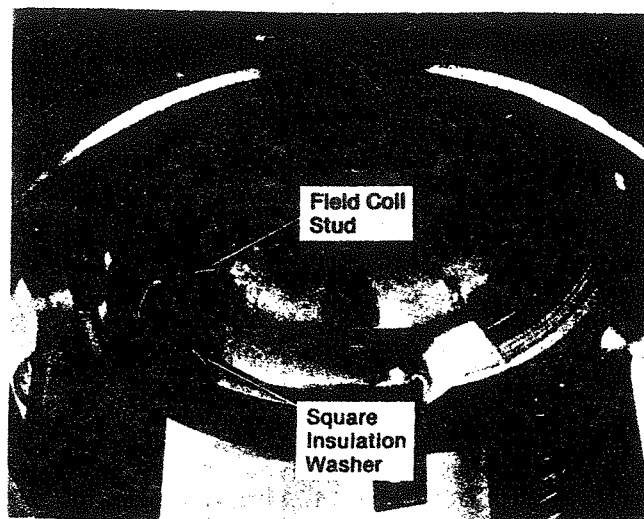

Figure 13
- 1.6. On field coils with welded field coil studs, place square insulation washer on field coil stud and pass stud through the field ring. See figure 13.